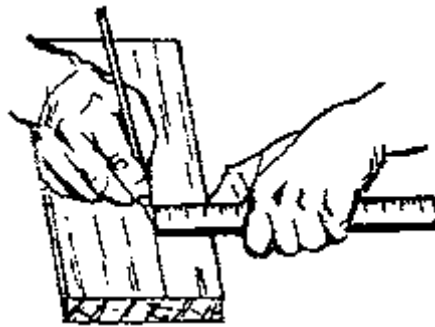

Fig. 2
- To gauge lines further from the edge of the board, use a rule and a pencil. Grasp the rule in one hand with your thumbnail at the desired marking. Then draw the rule along while keeping your thumbnail against the edge of the board. With your other hand hold a pencil at the end of the rule to make the line (Fig. 2).